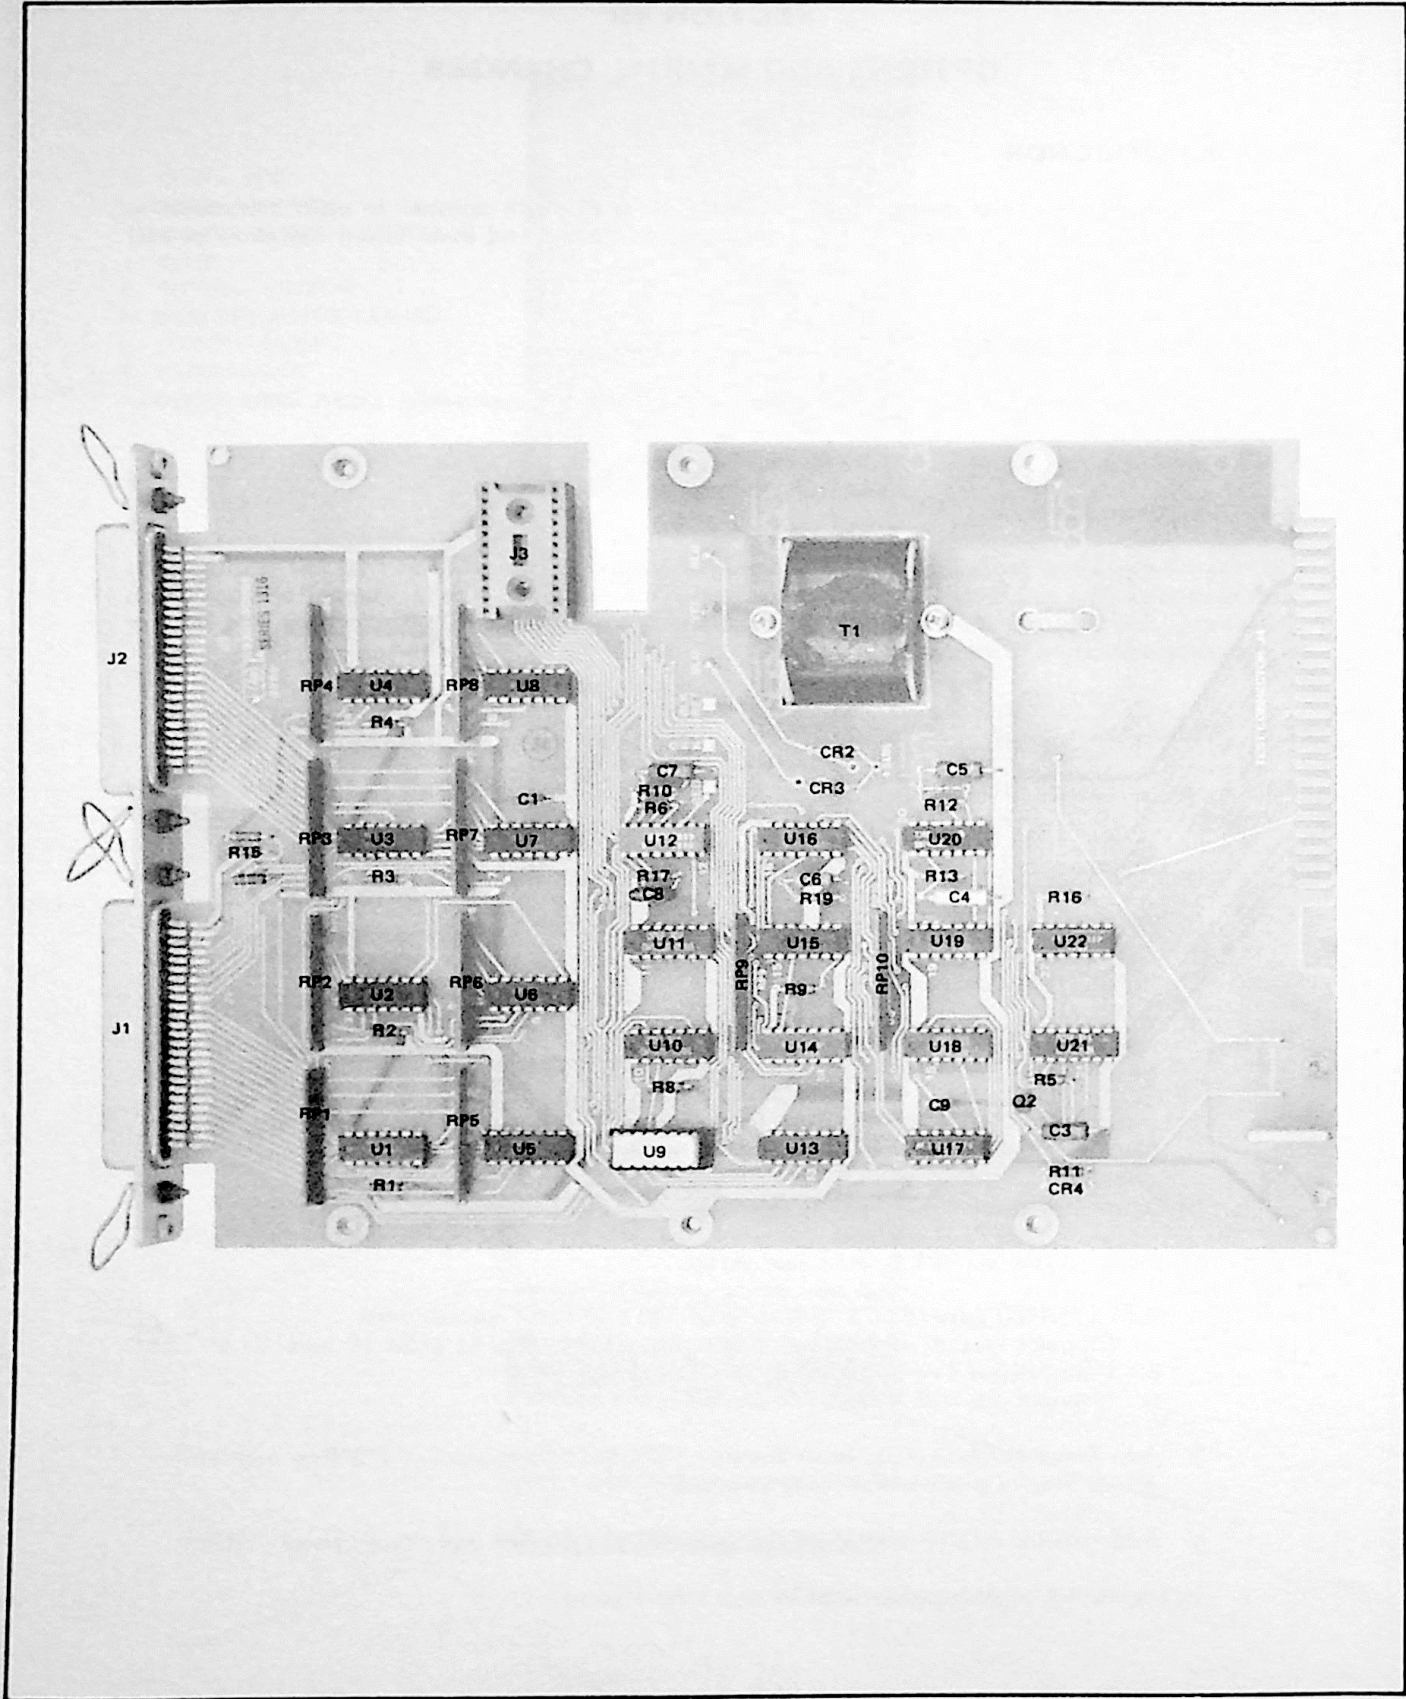

Figure 7-1. Parallel Output Board Assembly A1 (Series 1316A) Component Locator
- c. In Figure 8-3, replace component locator with Figure 7-1.